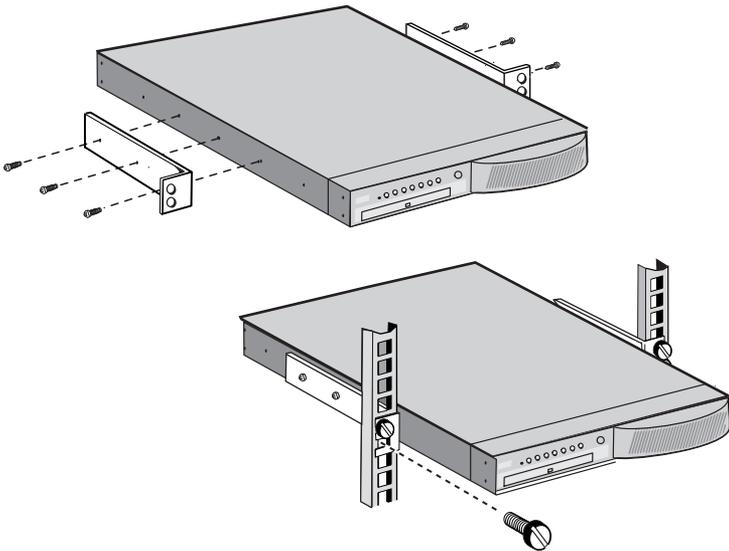

Figure 8. Telco Rack Installation
2. Mount the two Telco brackets to the center of the WebEngine chassis (Figure 8).